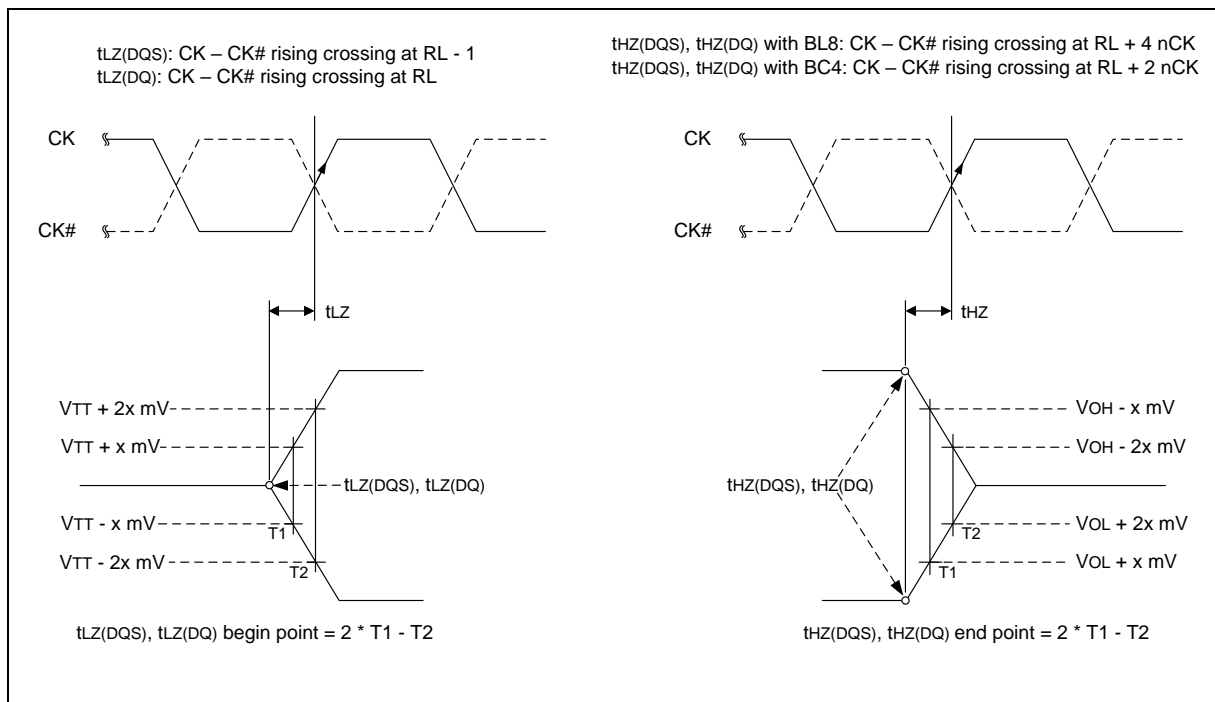

Figure 26 – tLZ and tHZ method for calculating transitions and endpoints
$t_{LZ}(DQS)$, $t_{HZ}(DQS)$ for preamble/postamble (see section 8.13.2.3 and Figure 26).
8.13.2.3 tLZ(DQS), tLZ(DQ), tHZ(DQS), tHZ(DQ) Calculation
tHZ and tLZ transitions occur in the same time window as valid data transitions. These parameters are referenced to a specific voltage level that specifies when the device output is no longer driving tHZ(DQS) and tHZ(DQ), or begins driving tLZ(DQS), tLZ(DQ). Figure 26 shows a method to calculate the point when the device is no longer driving tHZ(DQS) and tHZ(DQ), or begins driving tLZ(DQS) and tLZ(DQ), by measuring the signal at two different voltages. The actual voltage measurement points are not critical as long as the calculation is consistent. The parameters tLZ(DQS), tLZ(DQ), tHZ(DQS), and tHZ(DQ) are defined as singled ended.